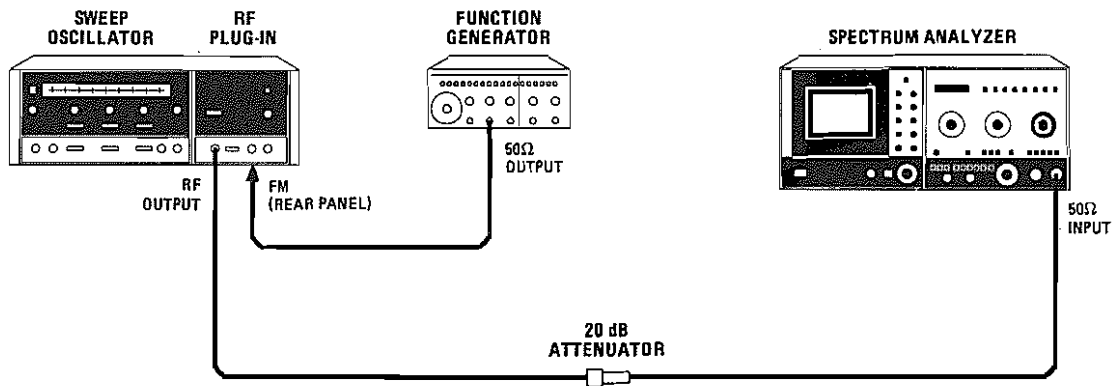

Figure 4-16. External Frequency Modulation Test Setup
- a. Connect equipment as shown in Figure 4-16.